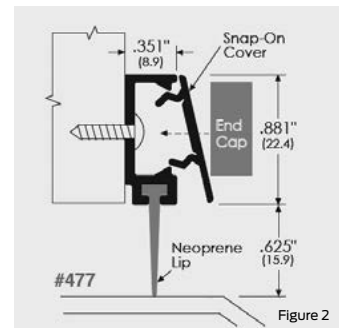

Figure 2
- Sill protection sweeps with snap-on covers for storefront entry doors** (Figure 2): The hospital specifier cautioned that aluminum storefront manufacturers, when asked to supply the entire opening as a package, typically add door bottoms that do not match the finish. He now specifies separately good-quality, durable sweeps to effectively block water and infiltration—including snap-on covers to conceal attachment screws. He also specifies custom powder-coating for matching other components, which is available from some manufacturers for large-quantity orders.
Figure 2: Appropriate for use with storefront entry doors, this sill protection sweep features an end cap to conceal attachment screws, which can be custom powder-coated in large quantities.